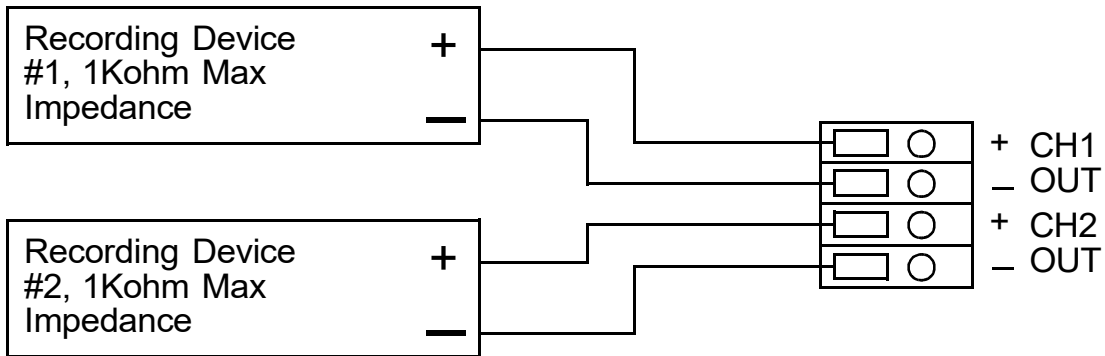

Figure 9. Recorder Output Wiring
- Connect the wires from the recording device to the recorder output terminals as shown in Figure 9.